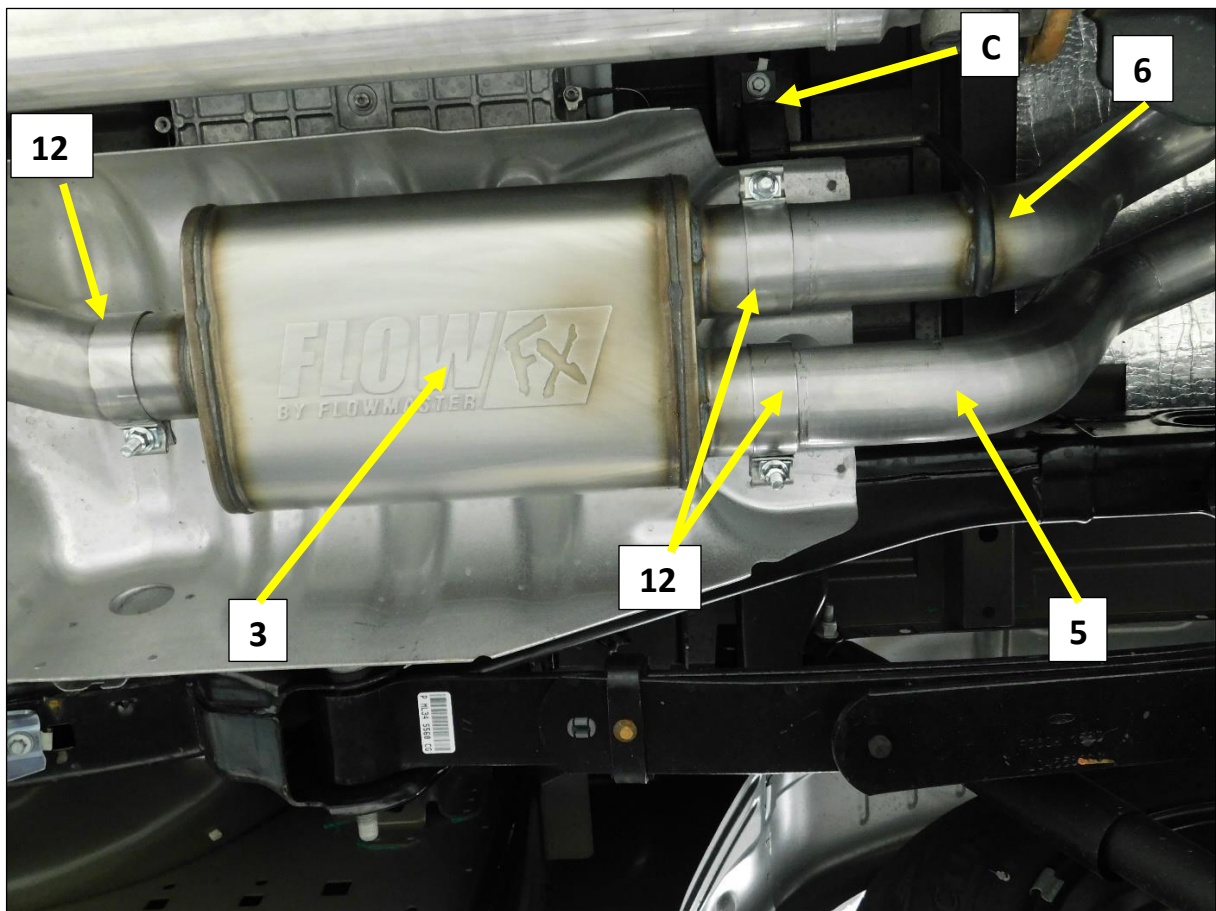

Figure 9
1. Install a 3" band clamp (12) on to each of the three-muffler inlet and outlet pipes with the bolt to the outside and the nut facing down. **Fig. 9**
2. Install the FLOW FX Muffler (3) on to the muffler inlet pipe with the FLOW FX logo facing the ground. **Fig. 9**
3. Tighten the inlet clamp (12) to allow for adjustment.
4. Reinstall the muffler hanger assembly (C). * Be sure the tab is in the slot (not the round hole). **Fig. 9**
5. Install the left Muffler Outlet Pipe (6) into the muffler while guiding the hanger rod into the isolator(C). **Fig. 9**
6. Install the Right Muffler Outlet pipe (5) into the muffler and tighten the clamp to allow for adjustment. **Fig. 9**